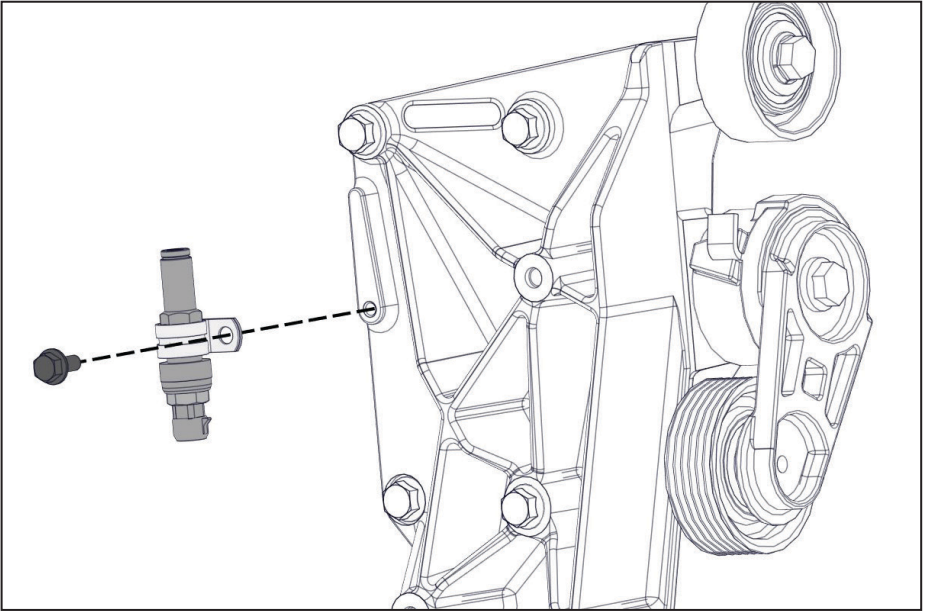

Figure 13 — Install pressure switch
- Slide the pressure sensor assembly into the P-clip and mount it to the bracket using the supplied M6 × 1.0 × 14 mm fastener (Figure 13).